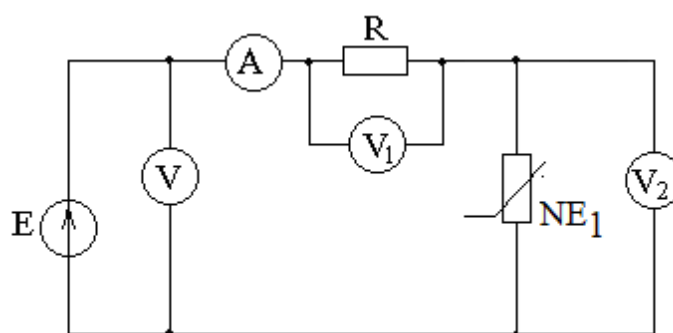

Figure 8.2
- 4) Give an example of the graphical calculation method of the electric circuit with one EMF source and series connection of nonlinear and linear resistive elements (figure 8.2).
8.2.2 Assemble an electrical circuit with a series connection of nonlinear and linear resistive elements (figure 8.2). Set the value of the input voltage  $U$  and the linear resistance  $R$ , according to a predetermined variant (table 8.1). Write down the readings of all measuring instruments into table 8.3 (in the “experiment” row).
8.3.2 Make the graphical calculation for the electrical circuit (figure 8.2, p. 8.2.2), write down the results into table 8.3 (in the row - “graphical calculation”), compare the calculated values with the experimental ones.